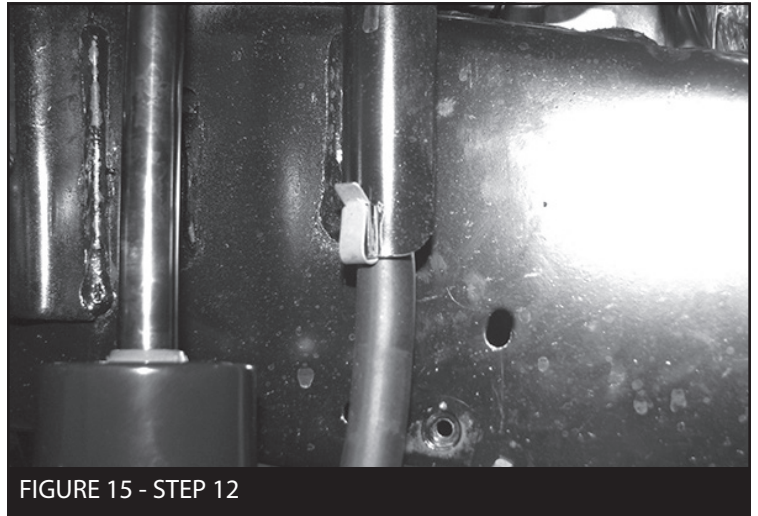
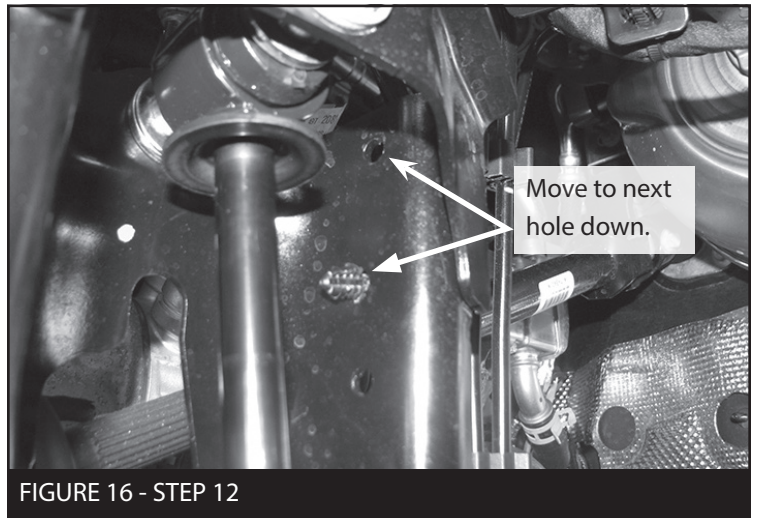

FIGURE 15 - STEP 12
FIGURE 16 - STEP 12
12. Reinstall the diff breather hose by moving the metal clip up the hose 2" SEE FIGURE 15 and the christmas tree fastener into the next hole down. SEE FIGURE 16.